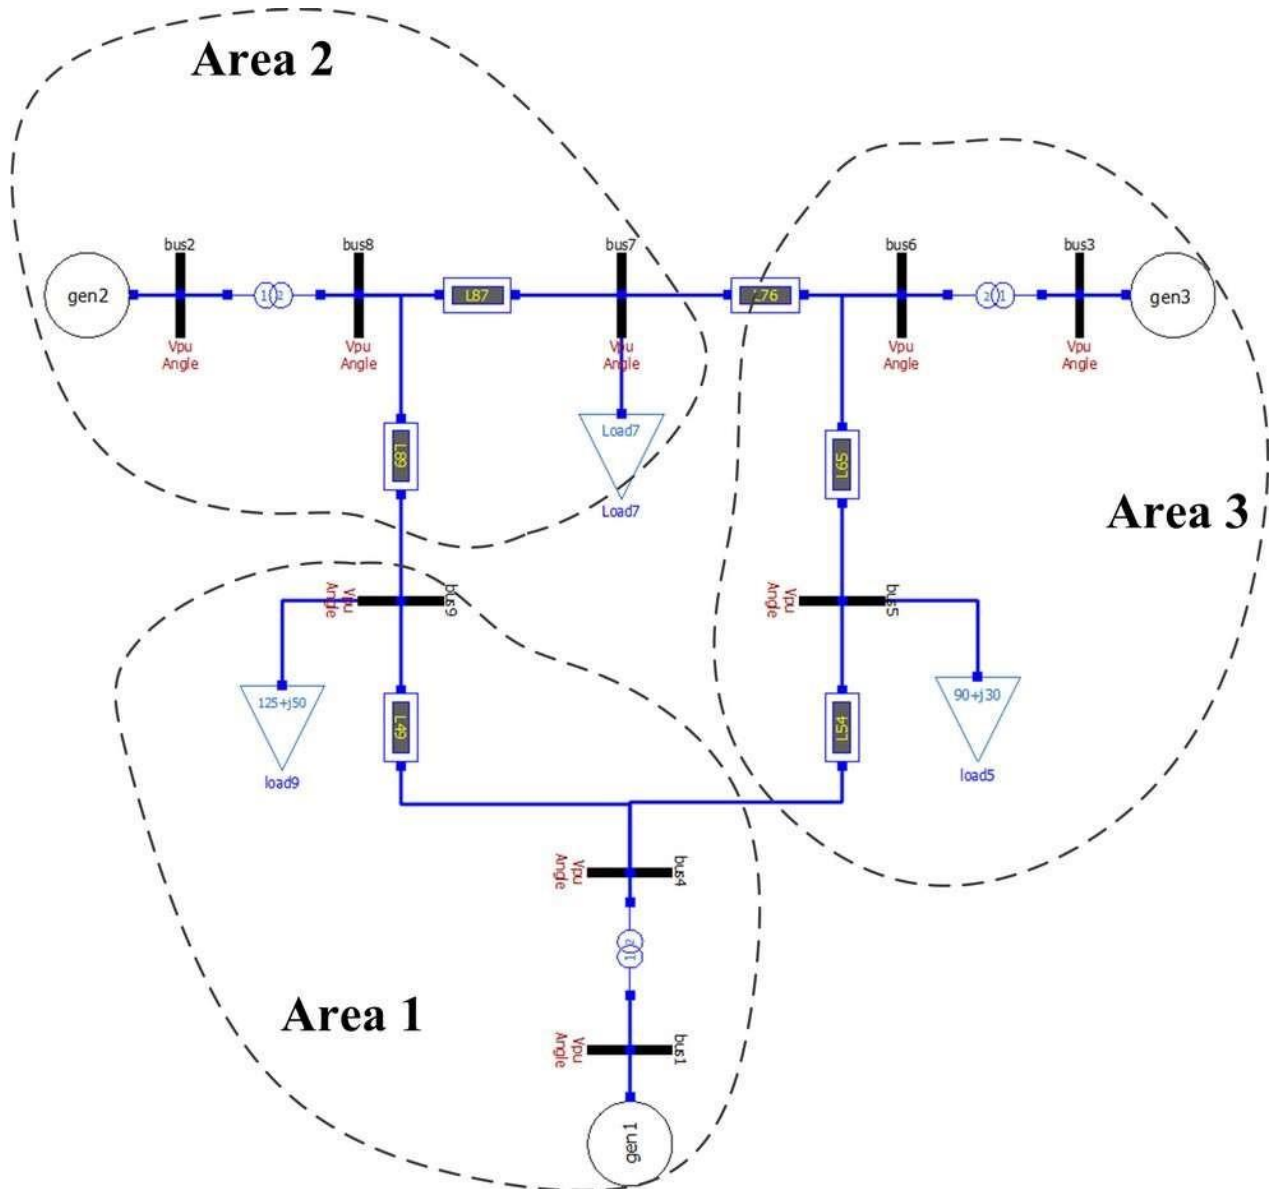
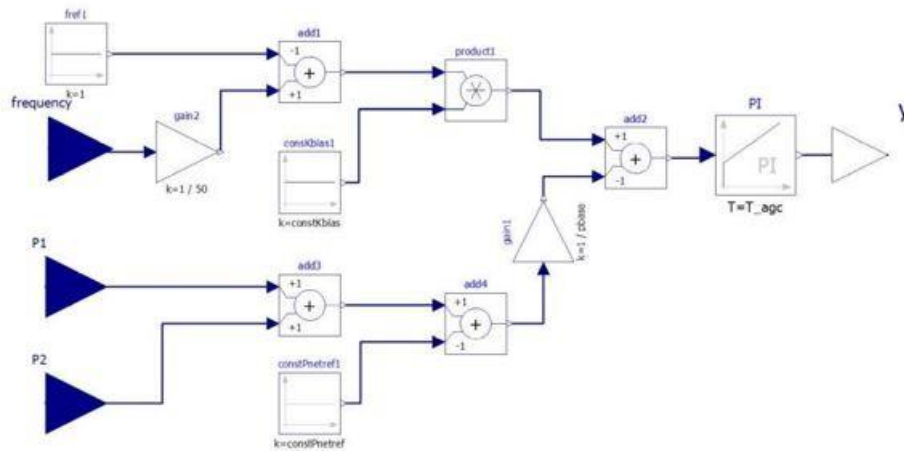

Figure 1: The 9-bus test system. It is divided into three areas, each consisting of a generator and a load.
Figure 2: The AGC block.
*Step 1:* See the 9-bus system in Figure 1. This system is divided into three areas, each consisting of a generator and a load.
Transmission lines (called tie lines) connect the areas. Each area has its own AGC controller to regulate the frequency of each area and the tie-line power flows. Use the given model in the packages 'NineBusForAGC' (similar to Figure 1) and 'AutomaticGenerationControl' (Figure 2) to build up the model for 9-bus system